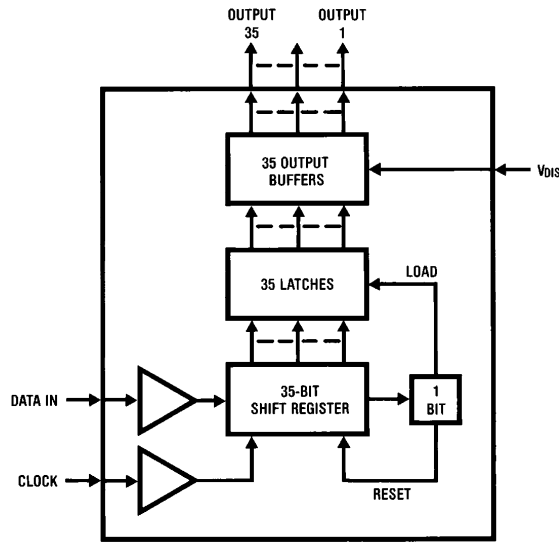

FIGURE 1
This product is specifically designed to drive multiplexed or non-multiplexed high voltage alphanumeric or dot matrix vacuum fluorescent (VF) displays. Character generation is done externally in the microprocessor, with a serial data path to the display driver. The MM58348 uses two signals, DATA IN and CLOCK, with a format of a leading "1" followed by the 35 data bits, hence allowing data transfer without an additional signal. A block diagram of the MM58348 is shown in Figure 1.